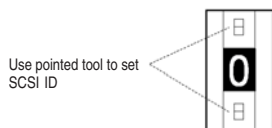

Figure 20: SCSI ID Select Switch
5. Select the appropriate SCSI ID number for the external hard disk drive as shown in Figure 20.